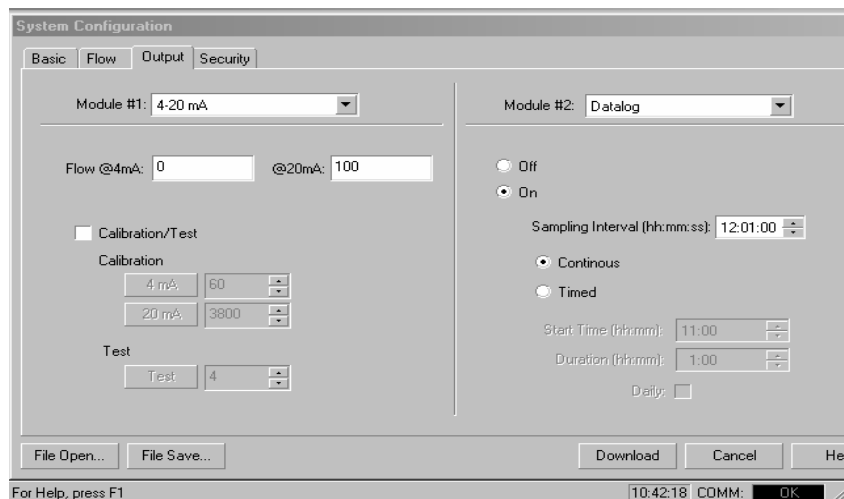

Figure 4.5
4. OUTPUT TAB - see Figure 4.5